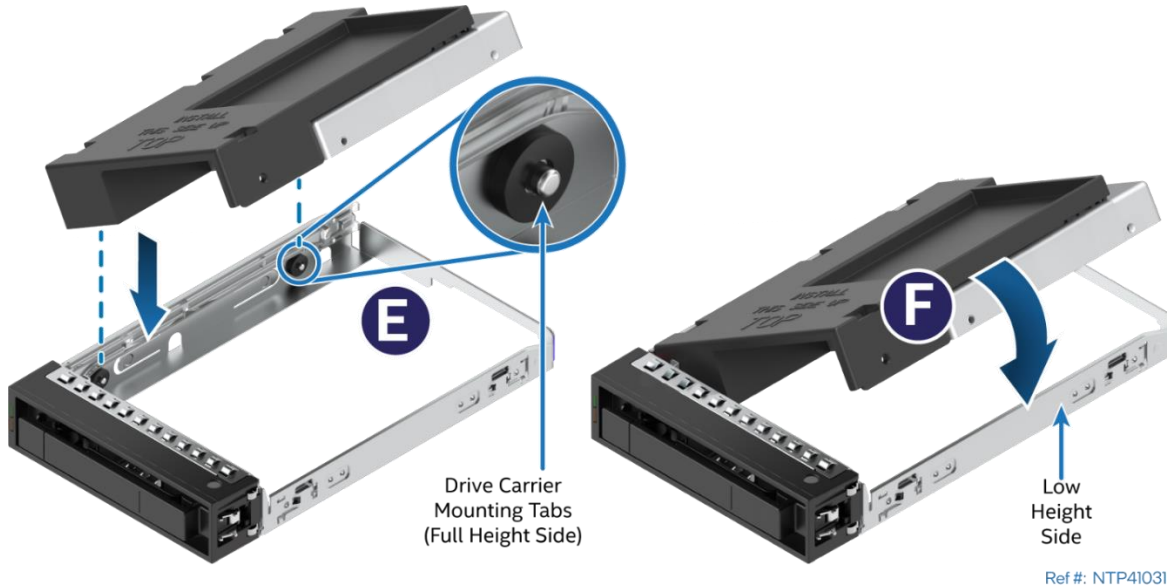

Figure 34. 3.5" Drive Carrier to 2.5" SSD Bracket – Mount Bracket Assembly to Carrier
4. Install the SSD assembly into the drive carrier (see Figure 34)